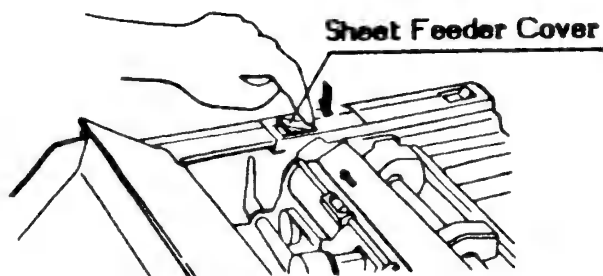

Figure C-1 Remove Cut Sheet Paper Feeder Cover
3. Push downward on the rear end of the Cut Sheet Paper Feeder cover and then remove the cover by raising it upward, as shown in Figure C-1.